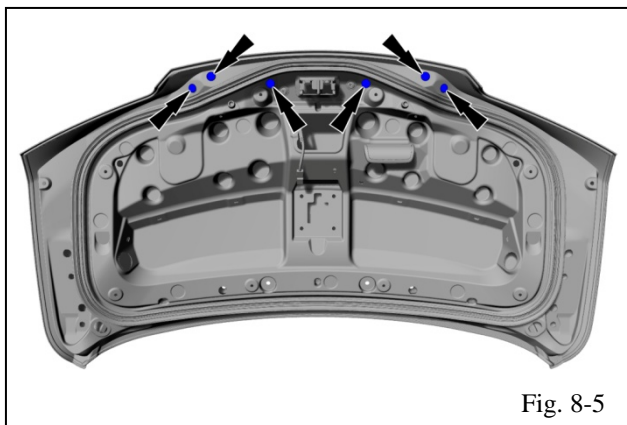

Fig. 8-5
- (h) Install 4x Hole Plugs back into deck lid after applying torque to nuts (Fig. 8-5).